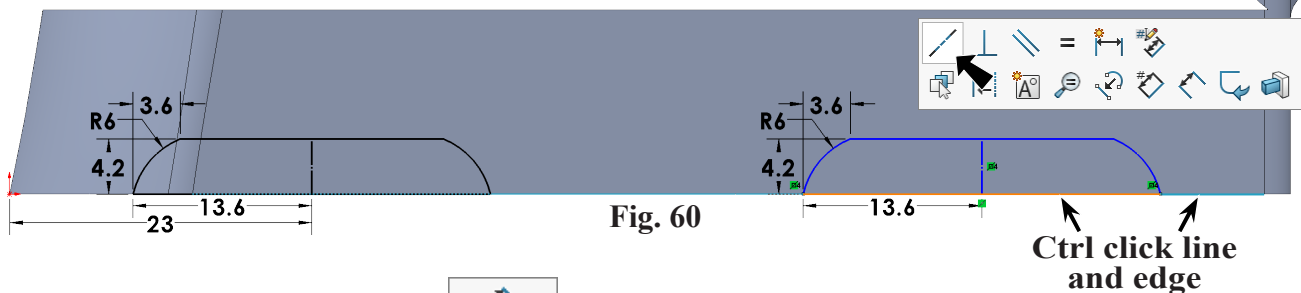

Fig. 60
Step 17. **Ctrl click bottom line of copied entity and bottom edge** to select both. Release Ctrl key and click **Make Collinear**  on the context toolbar, **Fig. 60.**